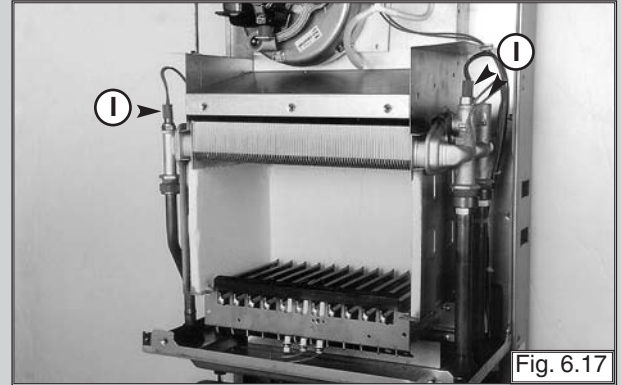

FIG. 6.17
2. Remove the overheat thermostat sensor, D.H.W. sensor and heating sensor "I" (FIG. 6.17);